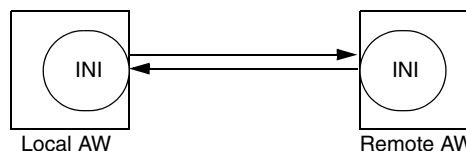

Figure 5. Q0301ZU and Q0302BN
- ▶ Q0301ZU - INI70 Symmetric Software for Two Systems (Figure 5)
- ▶ Q0302BN - Upgrade to INI70 Symmetric Software for Two Systems (Figure 5)